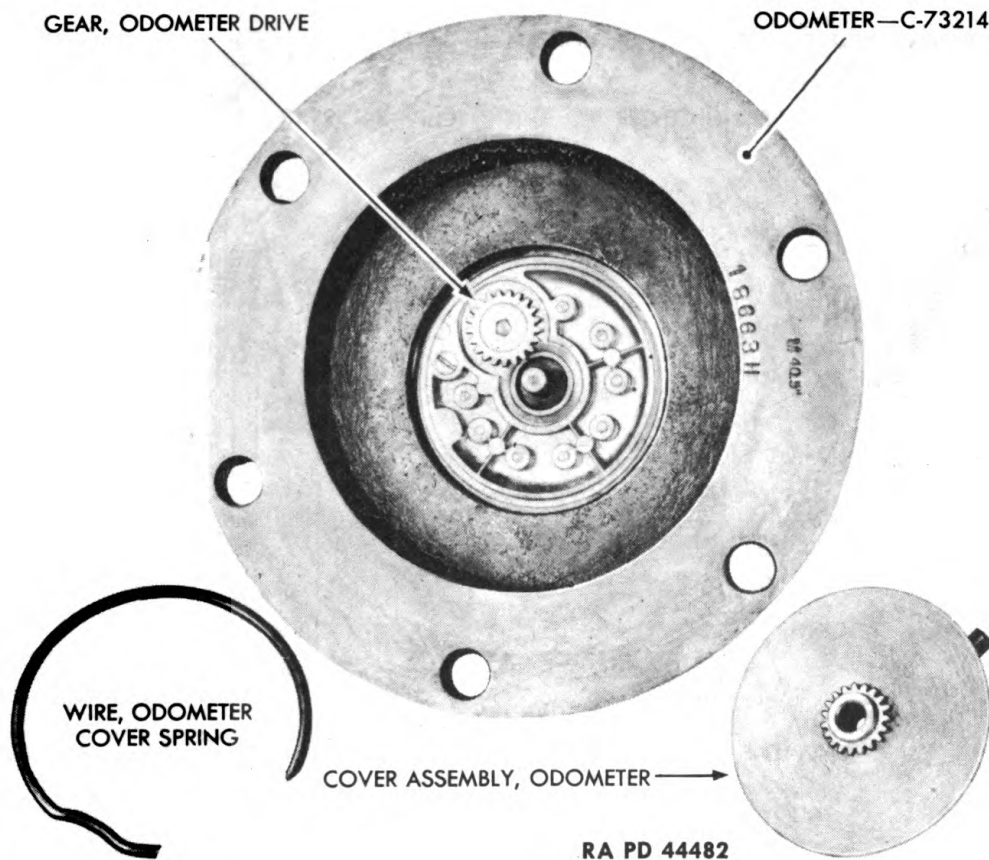

Figure 267 — Odometer Disassembled
(2) Remove odometer cover assembly from odometer body and remove odometer drive gear from odometer body (fig. 267).
(3) Remove odometer lever clamp screw and lock washer from odometer cover and lift off odometer lever.
(4) Remainder of bogie arch axle is disassembled in same manner as similar parts are disassembled from bogie straight axle (par. 95 c, d, e, f, and g). Maintenance and repair of bogie arch axle and parts are covered in paragraph 99.